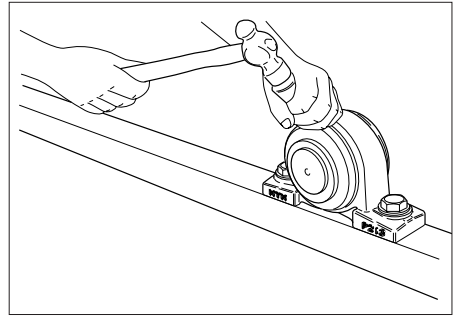

Fig.8.15
- 6) Fit the cover that is fitted over the shaft into the spigot of the bearing housing, in a manner similar to step 4)(**Fig.8.15**).